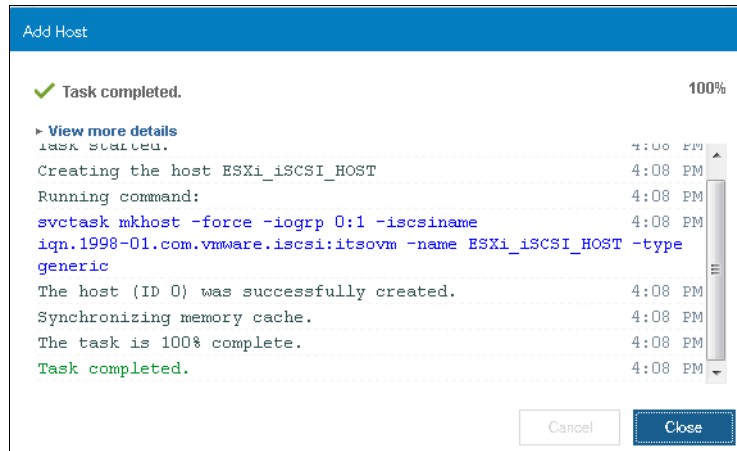

Figure 5-57 Add an iSCSI host: Complete
5. The wizard completes (Figure 5-57 on page 238). Click **Close**.